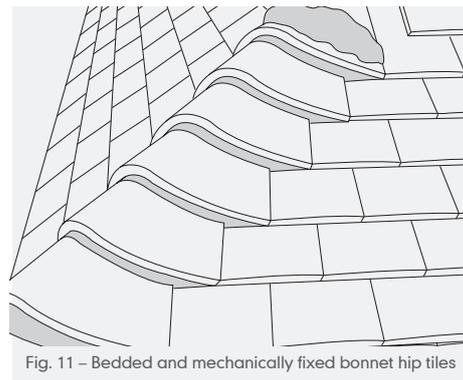

Fig. 11 – Bedded and mechanically fixed bonnet hip tiles
- 4 Cut tiles or tile-and-a-half to sides of bonnets to maintain minimum side laps and return the tiling to half-bond, and fix bonnets with aluminium nails to penetrate the raking batten or the hip rafter by no less than 15mm (Fig. 11).